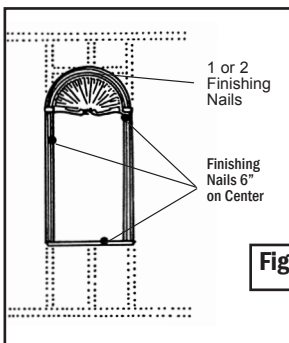

Figure 3
- Screw or nail into bracing and studs. (*figure 3*)